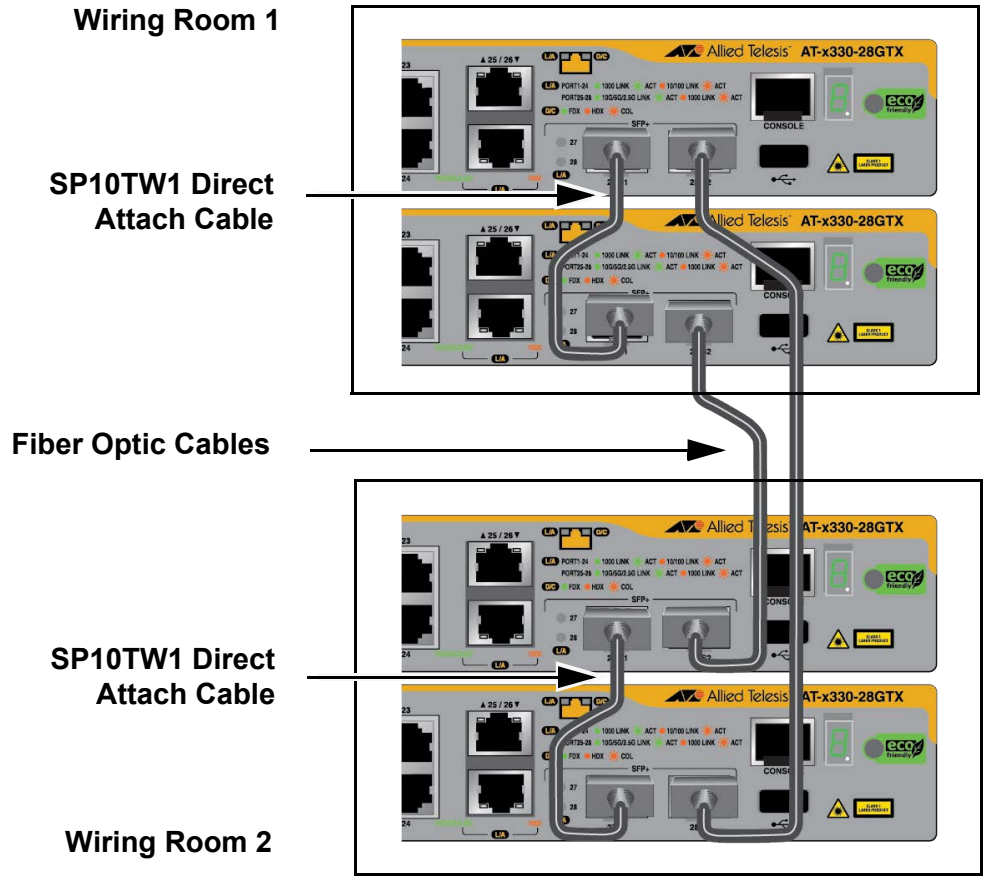

Figure 22. Unsupported Trunk of SFP+ Ports S1 and S2 with Mixed Cables
- ❑ The cables of a stack trunk of the SFP+ ports S1 and S2 can be either fiber optic or direct attach cables, but not both. The trunk in Figure 22 is unsupported because it has both fiber optic and direct attach cables.